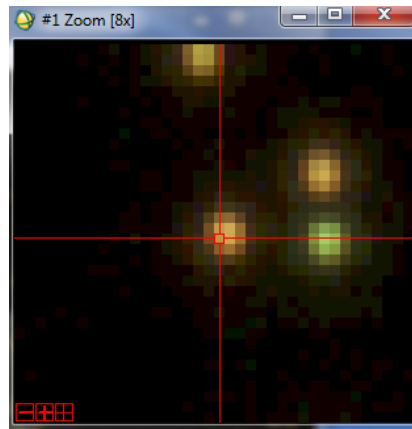

Figure 3.2a. Zoom window with crosshair enabled and centered on a particle
- Enlarge the Zoom window so that it contains some particles (see Figure 3.2a).
- To turn on and off the crosshairs use the button to the right of the (+) in the bottom left corner of the zoom window. The crosshair cursor appears below in the Zoom window (Figure 3.2a).